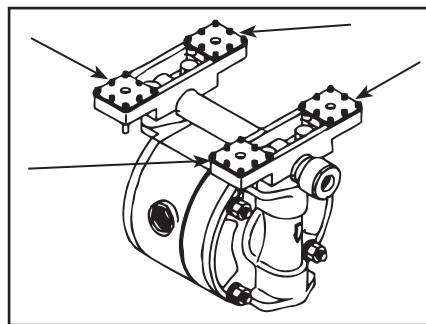

Figure 18
- Remove the 4 retainer bolts from the in manifold and remove the in manifold (See Figure 18).